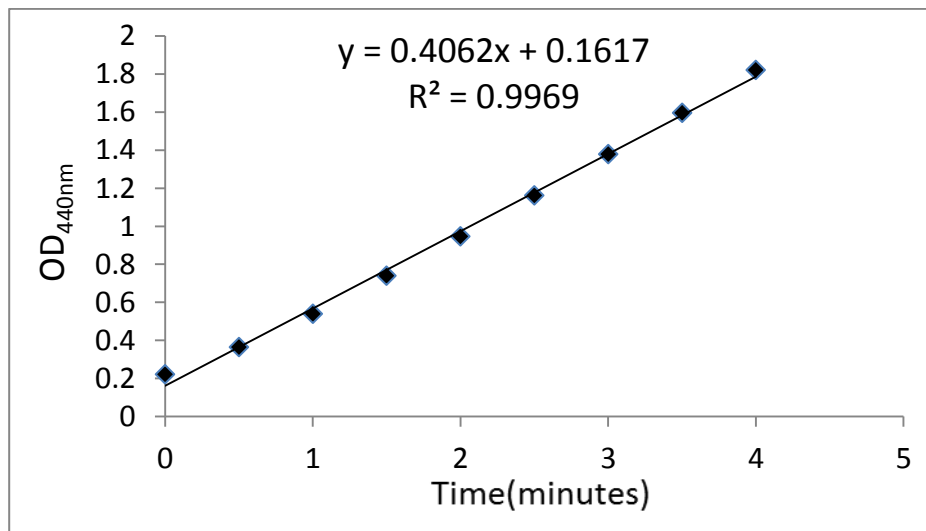

Figure.1 Absorbance change of diluted ALDH positive control at 440nm.
Diluted ALDH positive control is measured with the ALDH Assay kit after various reaction times (Figure 1 and 2). The detection range has a limitation of an absorbance increase of 0.01 to 0.5 per minute.
2. Add 90 μL of working reagent mix into each well of a 96-well plate containing the diluted ALDH positive control, samples, and blank. Immediately mix well and start recording $\text{OD}_{440\text{nm}}$ over 4 minute intervals, collecting data every 0.5 min. Figure 1 shows the data of ALDH positive control.